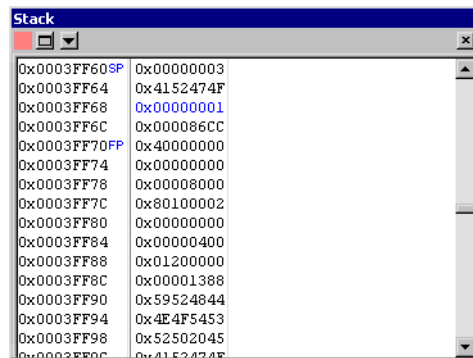

Figure 6-13 Viewing the stack
7. View the updated Stack pane, shown in Figure 6-13.
As you step through your code, the default stack pointer is used, shown in Figure 6-13 on page 6-31. You can specify an expression or a register to use as the stack pointer from the Stack pane: